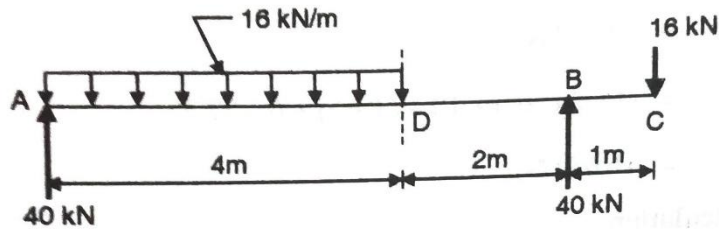

Figure 05
- C) A beam ABCD has an internal hinge at B and is loaded shown in figure 05. Plot shear force and bending moment diagrams and locate point of contra flexure.